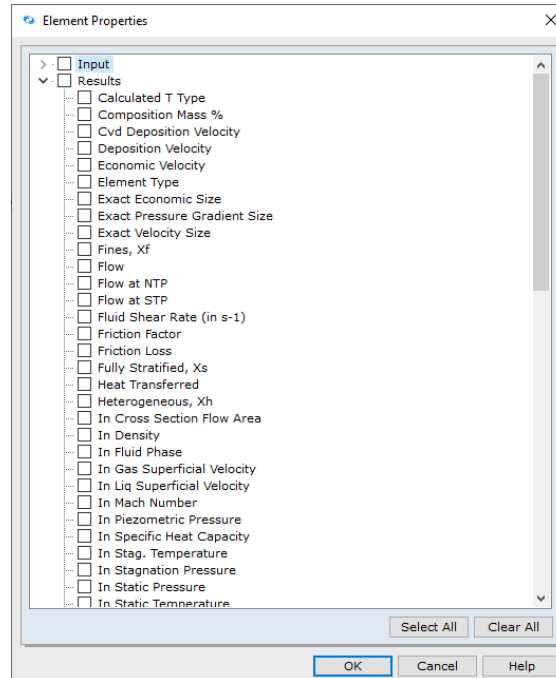

Figure 53: Element Properties Dialogue Box.
55. Now we will select the field titled *Properties* from the Input list. An *Element Properties* dialogue box will appear (Figure 53):